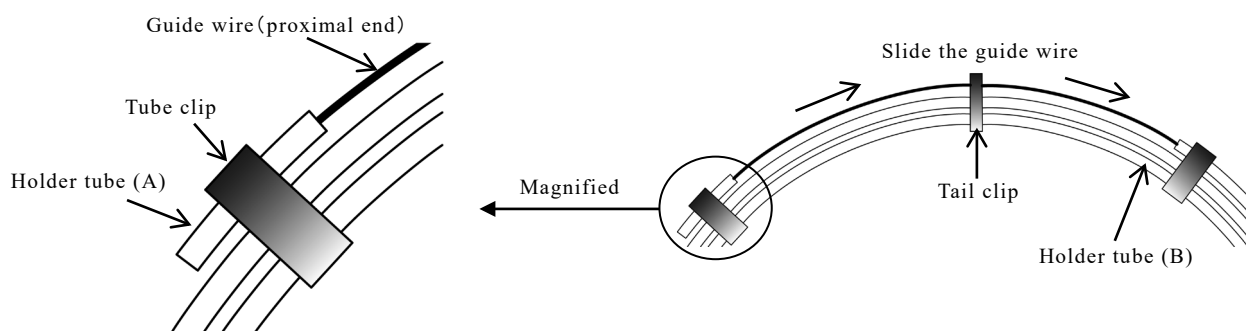

Figure 1
- Release the guide wire from the tail clip and slide the guide wire slowly, push distal end of the guide wire through the holder tube(B).(Figure 1)